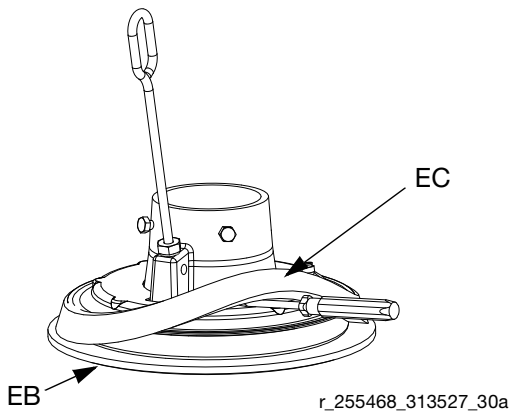

FIG. 17: Sliding spacer
3. By hand, angle spacer (EC) and work it off the plate, pulling it down over the flange and bottom wipers (EB). See FIG. 17.
4. Save spacer (EC), as it is required for other applications.
2. Ensure large diameter of spacer (EC) is facing **down**. Work spacer (EC) up over the platen by hand completely above the flange of the platen. See FIG. 17.